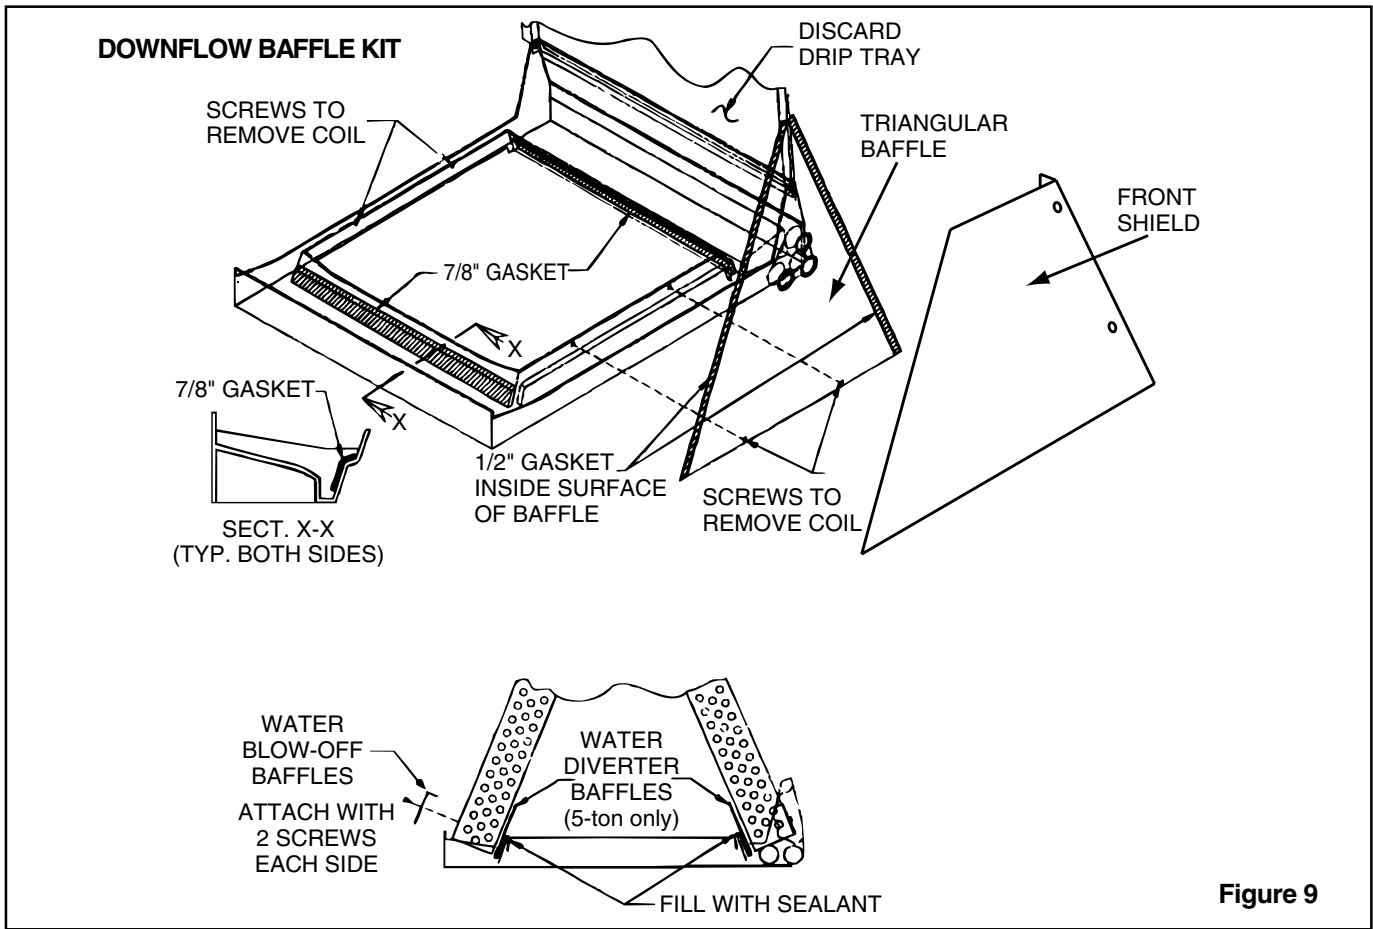

Figure 9
NOTE: Installation of the downflow baffle kit included with unit is required on downflow applications. See Figure 9.
- c. Remove front shield by removing screws on right side. Make sure to reinstall front shield after baffle changes. See Figure 9.
- d. Remove the front triangular baffle from the coil and install the 1/2" wide gasket provided per Figure 9. Trim the gasket length to fit the baffle. Reinstall the baffle to coil, with gasket material compressed against the coil.
- e. Install the water blow-off baffles provided on each side of the coil with the flange at the top as shown in Figure 9. The bottom of the baffle is to be as close to the bottom of the coil as possible.
- f. Install the 7/8" wide gasket in each side of the drain pan as shown in Figure 9 (sect. X-X).
- g. The 5 ton model (2/4TEE3D62) requires 2 water diverter baffles to be placed underneath the coil on the inside edge of the drain pan. See Figure 9. Fill the bend in the baffle which fits the inner edge of the drain pan with RTV type adhesive/sealant before installing the baffle.